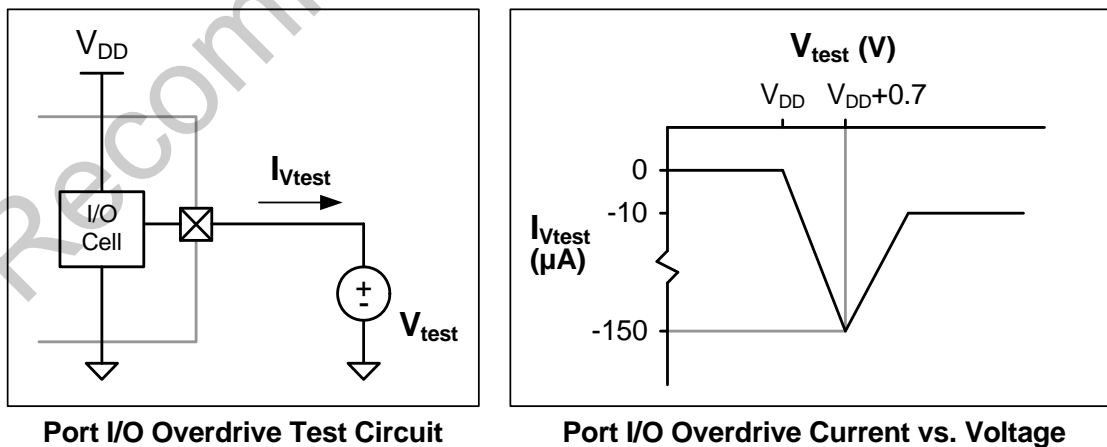

Figure 20.3. Port I/O Overdrive Current
**Important Note:** In a multi-voltage interface, the external pull-up resistor should be sized to allow a current of at least 150uA to flow into the Port pin when the supply voltage is between (VDD + 0.6V) and (VDD + 1.0V). Once the Port pin voltage increases beyond this range, the current flowing into the Port pin is minimal. Figure 20.3 shows the input current characteristics of port pins driven above VDD. The port pin requires 150  $\mu$ A peak overdrive current when its voltage reaches approximately (VDD + 0.7 V).